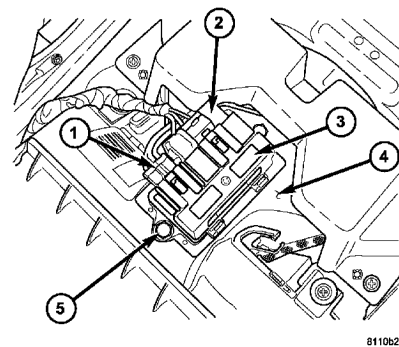

Fig. 8 Rear Blower Motor Power Module
(1) Remove the rear center console upper cover (Refer to 23 - BODY/INTERIOR/CENTER CONSOLE - REMOVAL).
(2) Disconnect and isolate the negative battery cable.
(3) Disconnect the body wire harness connector from the rear blower motor power module (Fig. 8).
(4) Disconnect the rear blower motor wire harness connector from the power module.
(5) Remove the two screws that secure the power module to the rear blower motor housing.
(6) Remove the power module from the blower motor housing.